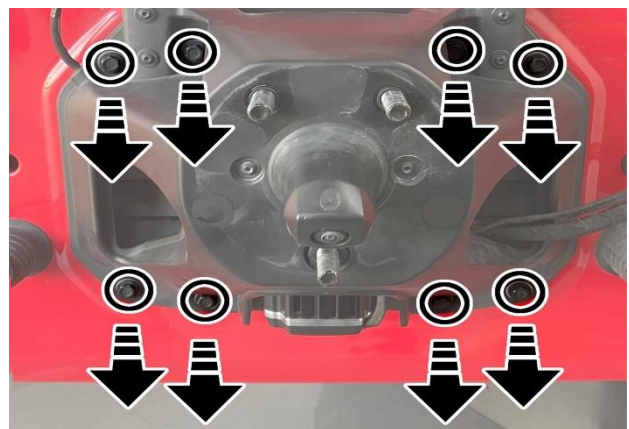

Figure 15 - Fasteners
- 26. Remove all of 8 fasteners from the spare tire carrier (Figure 15)
36. Install the 8 spare carrier mounting bolts and tighten to 17.5N·m (13ft. lbs.) (Figure 15).